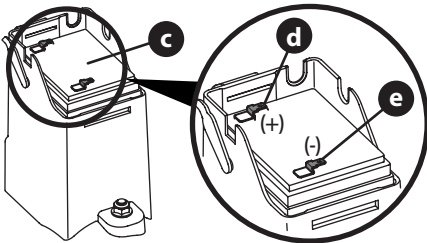

Figure 43
2. Installing the battery (Figure 43):